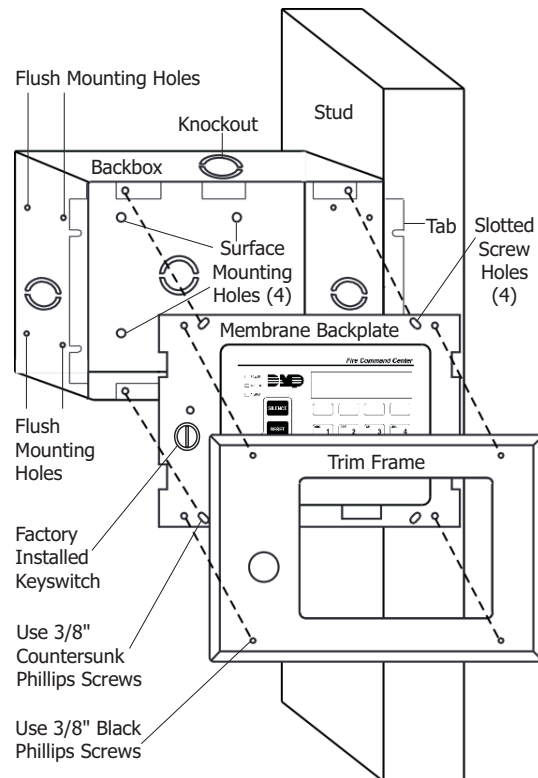

Figure 1: Exploded Mounting Diagram
The 630F can either be flush mounted or surface mounted. The 630F is comprised of three major parts: the backbox (standard or optional surface mount 635), the annunciator membrane backplate, and the trim frame. The backbox should be secured to the wall by following the steps below. Refer to Figure 1 as needed.
Use the included flush mount backbox as shown in Figure 1.
2. The backbox has four mounting holes on both sides. Using the mounting holes on one side of the backbox, attach the backbox to a stud. As shown in Figure 1, the backbox tab flush-mounts against the stud.
Figure 1 is an exploded mounting illustration showing the three major parts. The dashed lines represent paths for screws. For easier installation, one knockout is provided on each side and the backbox back. Use one of the five knockouts for running wires.